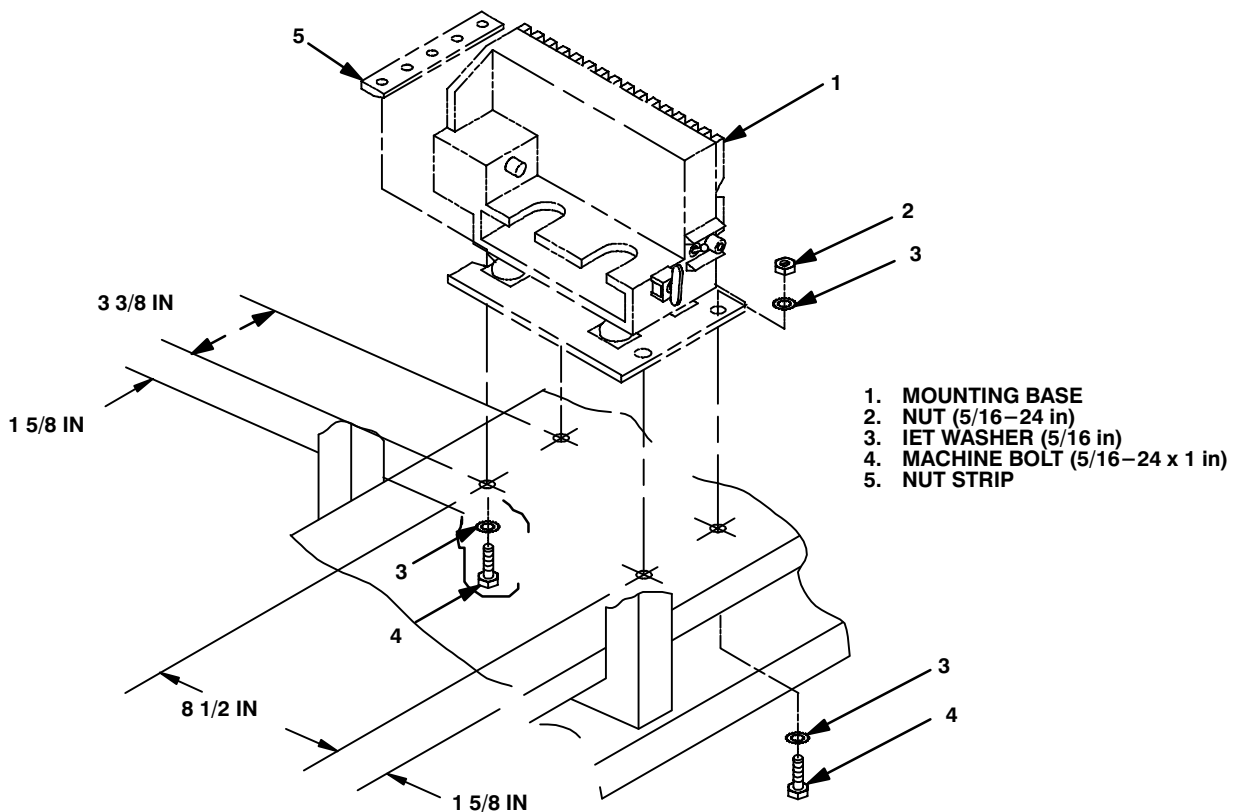

Figure 5-9. MT-6353/VRC Mounting Base Installation
| a. Mounting holes for MT-6353/VRC mounting base (1). | Using dimensions shown, drill four 11/32 in diameter holes through lower rack shelf. See Figure 5-9. | Tools: Electric drill and 11/32 in drill bit. |